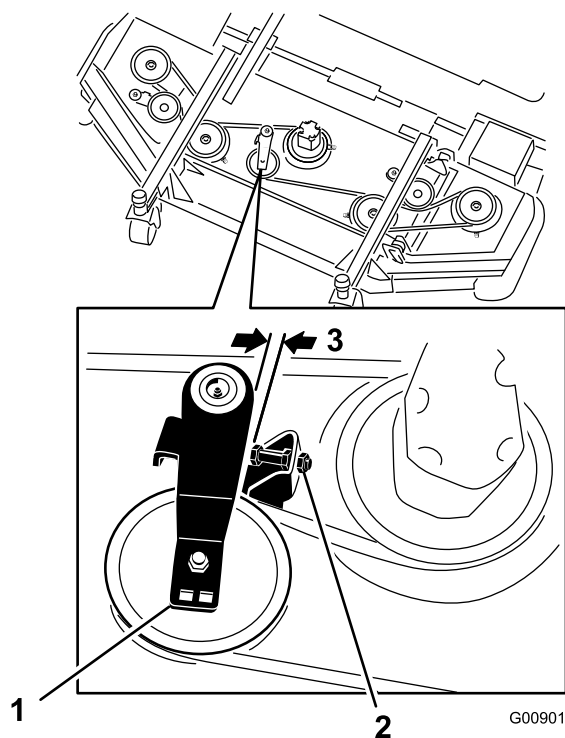

Figure 93
3. On the front deck, center position, loosen the jam nuts on the idler pulley stop screw and thread the stop screw into the bracket (Figure 93).
4. Using a ratchet wrench or similar tool, move each wing-deck idler pulley away from the drive belt to release the belt tension and allow the belt to slip off the wing-deck pulley (Figure 93).